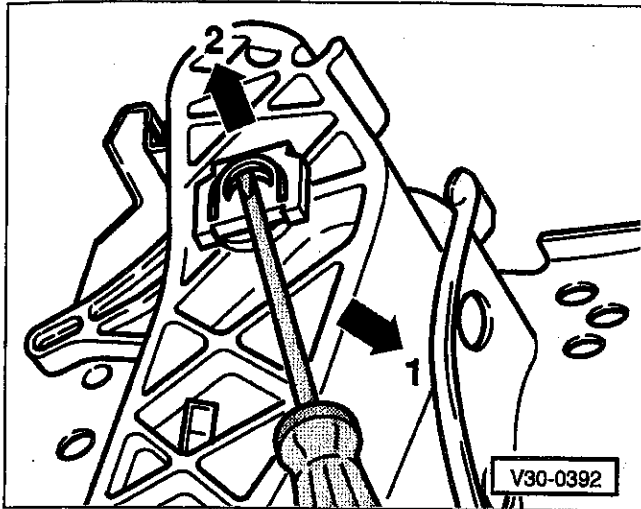

Fig. 5. Clutch pedal retaining clip being removed. Pry up tab (arrow 1), then press off clip (arrow 2).
5. Remove clutch pedal retaining clip from pivot pin. See Fig. 5.